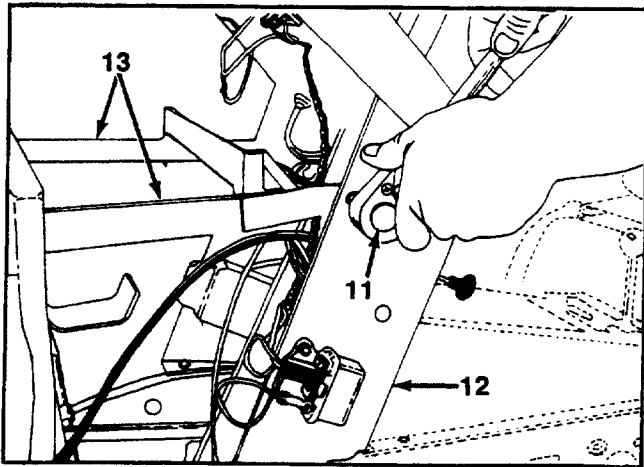

FIGURE 10.
10. Remove the hex bolts on each side of pedistal and gas tank straps. See figure 10.